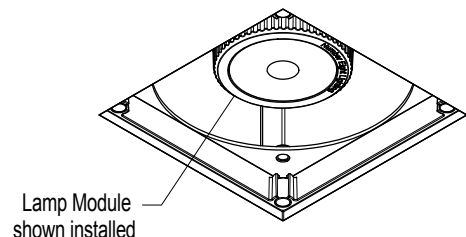

FIG. 2.2 Securing Lamp Module K2 to Housing
Step 3 Plug Wire Connector from Lamp Module into Power Supply Module connector. Push wire up inside housing to avoid interference with LED - Fig 2.2.